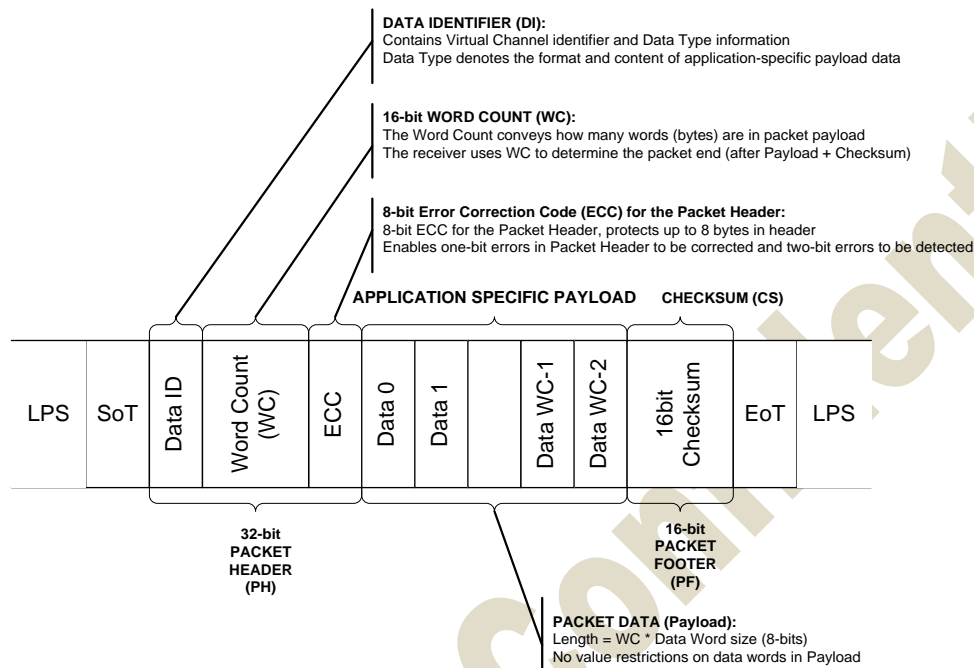

Figure 7.22: Long Packet Structure
Figure 7.22 shows the structure of the Long packet. A Long packet shall consist of three elements: a 32-bit Packet Header (PH), an application-specific Data Payload with a variable number of bytes, and a 16-bit Packet Footer (PF). The Packet Header is further composed of three elements: an 8-bit Data Identifier, a 16-bit Word Count, and 8-bit ECC. The Packet Footer has one element, a 16-bit checksum. Long packets can be from 6 to 65,541 bytes in length.